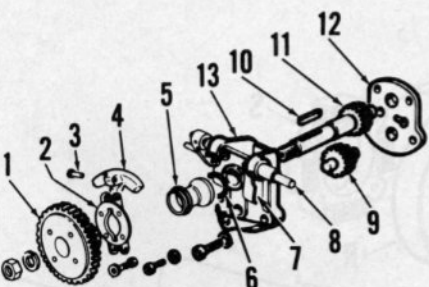
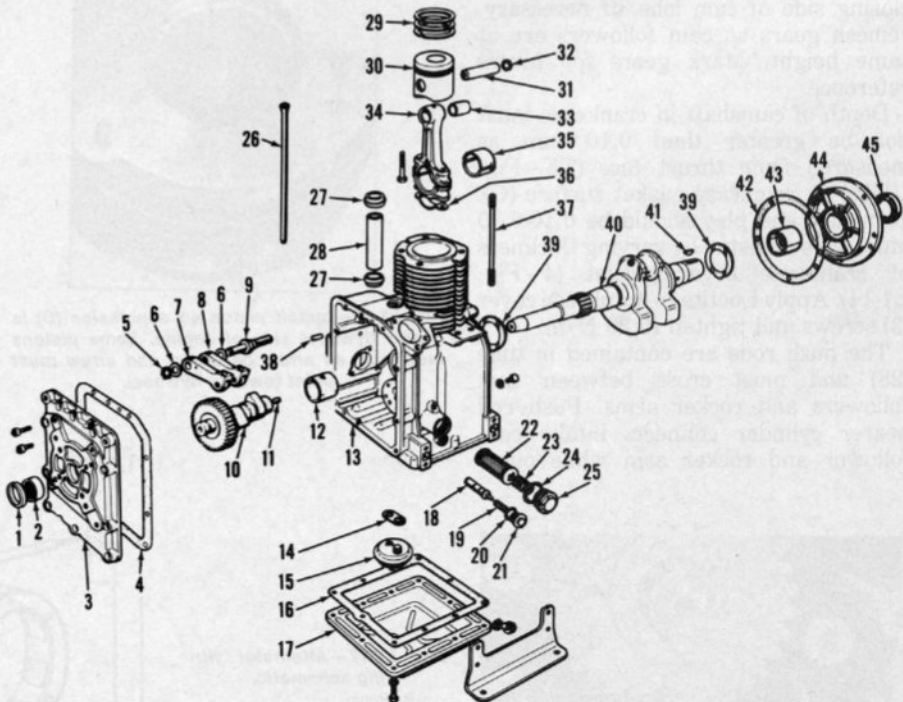

Fig. L1-13—Exploded view of governor and oil pump assembly.
Fig. L1-14—Exploded view of engine.
Spindle (8—Fig. L1-13) diameter is 7.95 mm. Desired clearance between spindle and bores in oil pump body (13) is 0.06-0.10 mm with a maximum allowable clearance of 0.15 mm.
Refer to Fig. L1-13 for an exploded view of oil pump. The oil pump is accessible after removing crankcase cover (3—Fig. L1-14). Clearance between gears and pump body walls must not exceed 0.15 mm. Renew oil pump if components are excessively worn or damaged. Tighten pump mounting screws evenly to 11.8 N·m.
The camshaft rides directly in crankcase cover and crankcase bulkhead and is accessible after removing crankcase cover (3—Fig. L1-14). Cam followers (7 and 8) pivot on stud (9) and transfer motion to push rods (26) which pass through tube (28) to rocker arms. In addition to valve actuating lobes, a lobe is ground on the camshaft to operate the fuel injection pump.
Depth of camshaft in crankcase must not be greater than 0.10 mm as measured from thrust face (TF—Fig. L1-15) to crankcase gasket surface (G). Camshaft end play should be 0.10-0.30 mm and is adjusted by varying thickness of crankcase cover gasket (4—Fig. L1-14). Apply Loctite to crankcase cover (3) screws and tighten to 29 N·m.
The crankshaft is supported by bushing (12—Fig. L1-14) in the crankcase bulkhead, bushing (43) in support (44) and by roller bearing (2) in the crankcase cover.